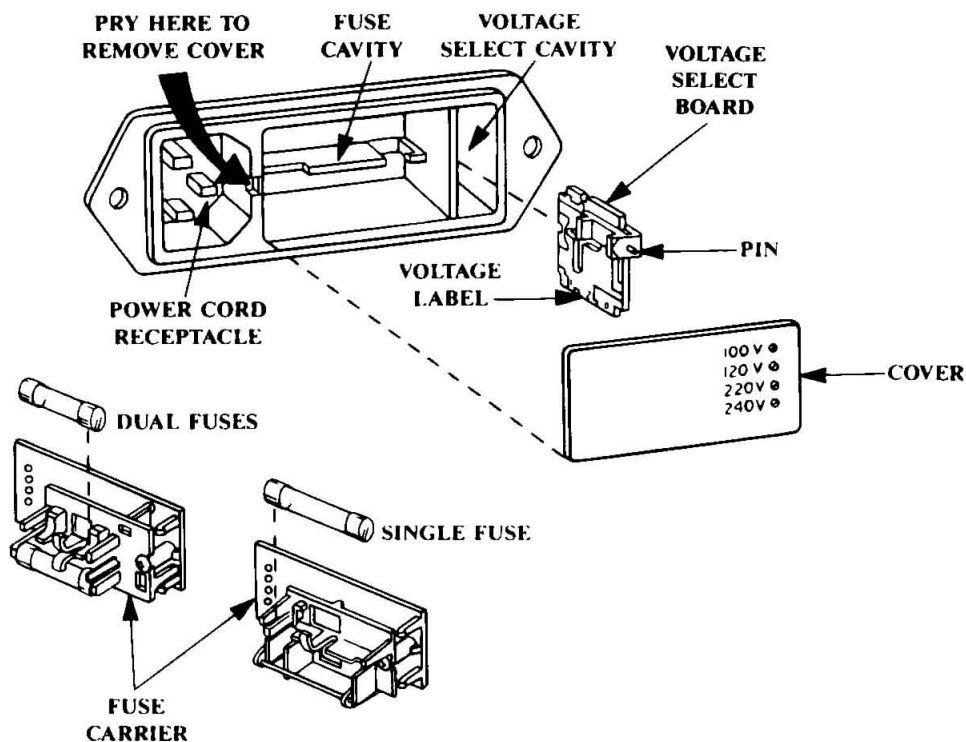

FIGURE 11-4. POWER ENTRY MODULE
1. Set the plotter power switch off (0).
2. Unplug the power cord from the ac wall outlet and from the power cord receptacle on the power entry module. See Figure 11-4.